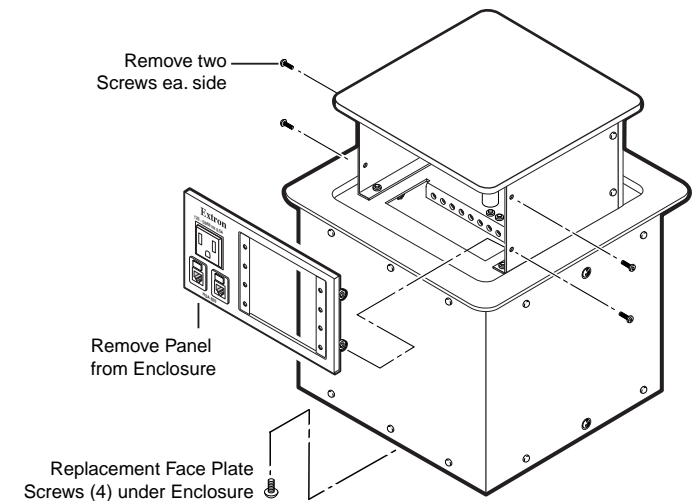

Figure 2-4 — Removing the front panel from an HSA 800
1. Remove the four screws on the right and left sides of the front panel (figure 2-4). Retain the screws. Lift the panel away from the enclosure.